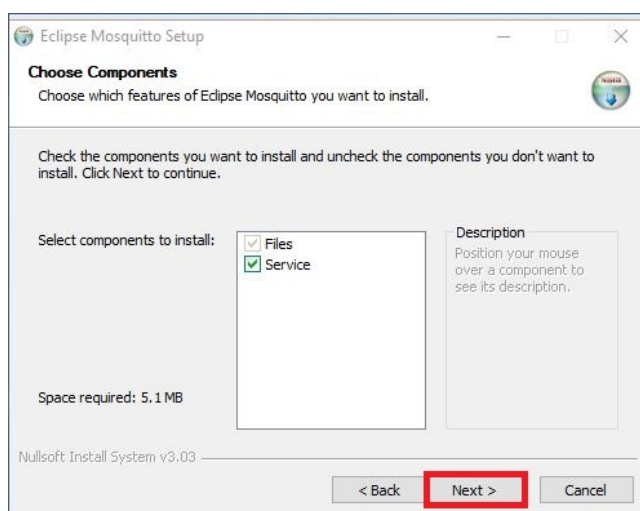

Figure 4.27: Select Fast Mode Components
17. Click "Next >" to confirm the components you want to install, as shown in figure 4.27.